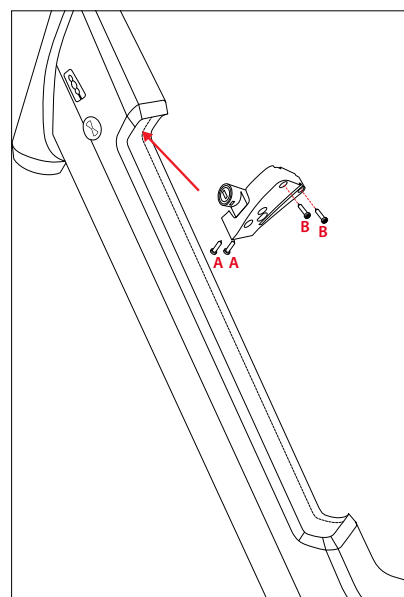

Figure 4.34 Lock iassembly 2
1. Install two M3x8 fasteners [A] on the bottom side of the plastic part of the lock (Fig. 4.34)
4. Attach the lock to the frame using two 2.9 x 25 mm self-tapping fasteners [B] (Fig. 4.34). Tighten the fasteners to 1Nm.